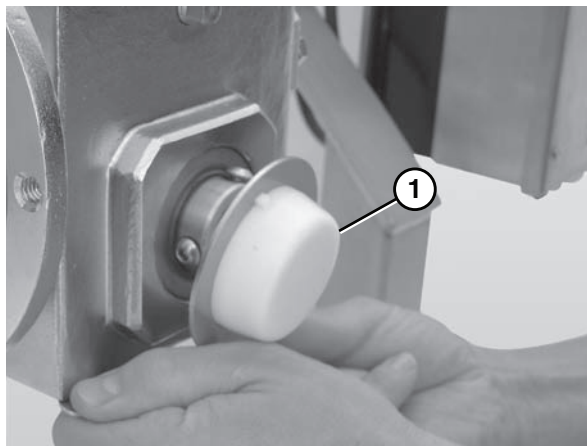

Figure 10
7. Attach the drive spindle cover (Figure 10, item 1).